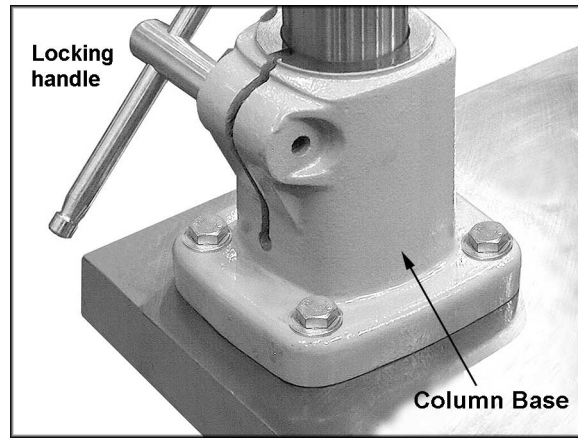

Figure 4
6. Place the column base in position (Figure 4), and align the four holes in the column base with the holes in the table. Position the column base so that its locking handle will be in a convenient position.
7. Insert four M12 hex cap screws with four M12 flat washers (not provided) through the holes in the stand. See Figure 4.